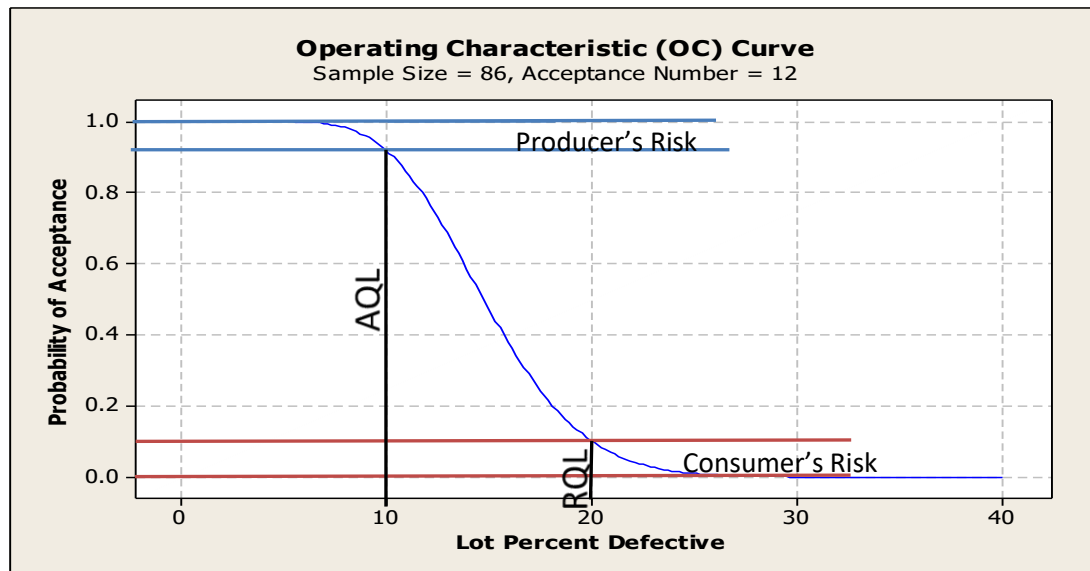

Figure 1: Sample OC curve
Operating Characteristic (OC) curves are widely used in industry for lot acceptance sampling plans (LASP). The x-axis is typically the percent defective, and the y-axis is the probability that the lot will be accepted. The user defines the Acceptable Quality Limit (AQL) and the Rejectable Quality Limit (RQL), and the producer's risk and the consumer's risk. The OC curve is generated by determining a sample size and an allowable number of failures or defects. Figure 1 is an OC curve with an AQL of 0.9 (percent defect of 0.1), an RQL of 0.8, producer's risk of 0.1, consumer's risk of 0.1, a sample size of 86 and acceptance number of 12 (maximum number of failures allowed in the sample).
This section will show you how to create a sampling plan in Minitab. We will focus on the Go / no go (defective) measurement type, but there is also the ability to select the number of defects. We will also use the percent defective default, but other options include the proportion defective or defectives per million. The first two inputs boxes are the AQL and RQL in percent defective. Therefore enter 10 for a 0.90 proportion and 20 for a 0.80 proportion. Here alpha and beta are set to 0.1 and 0.1, and the results are shown in Figure 1. The program will also output the results in tabular form as shown in Table 1.